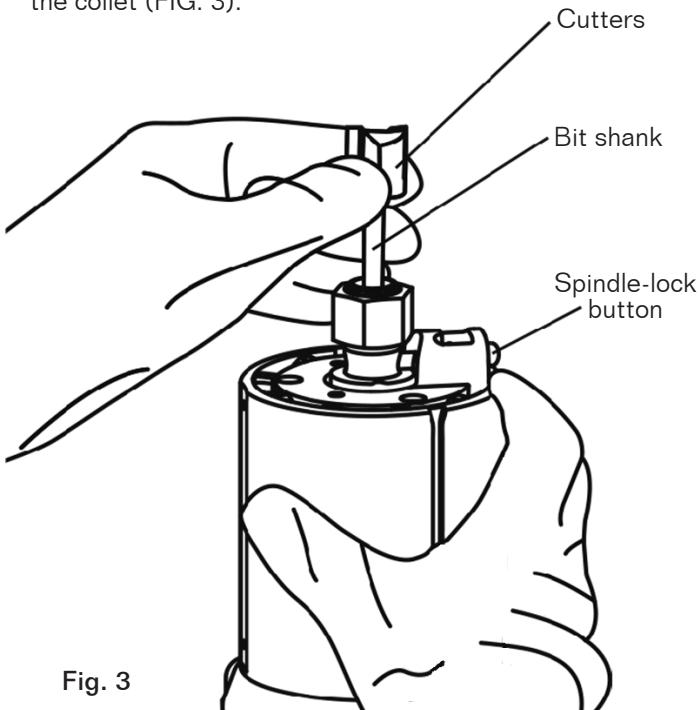

Fig. 3
INSTALLING THE CUTTER BIT (FIG. 3)
6. Insert the cutter bit shank into the collet assembly as far as it will go, then back the shank out until the cutters are approximately 1/8" to 1/4" away from the face of the collet (FIG. 3).